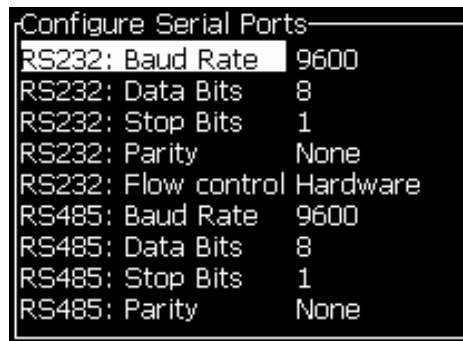

Figure 4-21: Configure Serial Ports Dialog Box
- 2 Select *Serial Port Configuration* option, and press the *Enter* key. The *Configure Serial Ports* dialog box appears (see Figure 4-21).